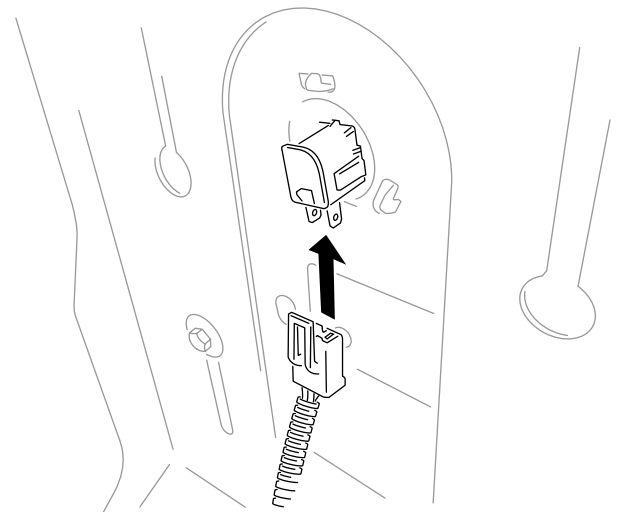

Figure 7
5. Connect the seat switch (Figure 7).